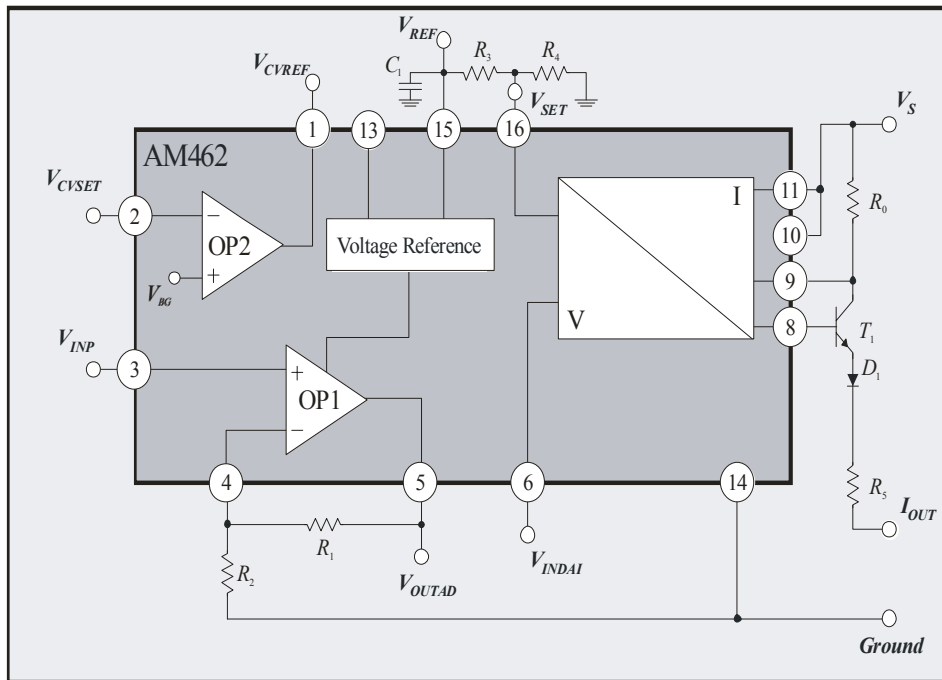
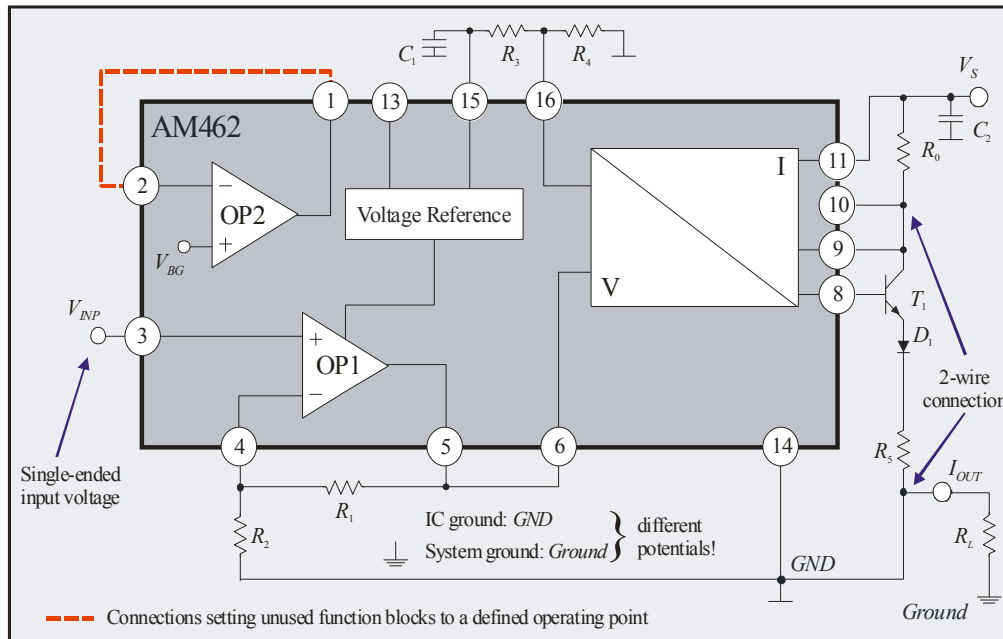

Figure 2: Block diagram of AM462 (3-wire circuit for current output). Pin 1 and 2 have to be connected.
Figure 8: Typical 2-wire operation for input signals referenced to ground
AM462 is a modular, universal V/I converter and protector IC which has been specially developed for the conditioning of voltage signals referenced to ground. It is designed for both 2- and 3-wire operation in industrial applications (cf. application in Figure 8). AM462's various functions are depicted in the block diagram (Figure 2) which also illustrates how few external components are required for the operation of this particular device.
AM462 consists of several modular function blocks (operational amplifiers, voltage-to-current converters and references) which, depending on external configurations, can either be switched to one another or operated separately (see the basic circuitry in Figure 2):
2. The internal voltage-to-current converter (V/I converter) provides a voltage-controlled current signal at IC output I_{OUT} (pin 8) which activates an external transistor T_1 ; this in turn supplies the actual output current I_{OUT} . To reduce power dissipation the transistor is an external component and protected against reverse polarity by an additional diode D_1 . Via pin SET an offset current I_{SET} can be set at output I_{OUT} (with the help of the internal voltage reference and an external voltage divider as shown in Figure 2, for example). External resistor R_0 permits the output current to be finely adjusted with parallel operation of current and the voltage output. For the output current provided by T_1 the following ratio applies:
- The AM462 *reference voltage source* enables voltage to be supplied to external components (such as sensors, microprocessors, etc.). The reference voltage value V_{REF} can be set via pin 13 V_{SET} . If pin V_{SET} is not connected, $V_{REF} = 5V$; if V_{SET} is switched to ground, $V_{REF} = 10V$. Values between the above can be set if two external resistors are used (inserted between pin V_{REF} and pin V_{SET} and between pin V_{SET} and GND ; see Figure 2).
When using amplification stage OP1 together with the V/I converter for voltage-to-current conversion the offset of the output current should first be compensated for by suitable selection of resistors R_3 and R_4 . To this end the OP1 input must be connected to ground ($V_{INP} = 0$). With the short circuit at the input and by connecting up V/I converter pin *VSET* as shown in Figure 2 the values of the output current according to Equation 2 are as follows:
1. When operating AM462 it is imperative that external capacitor C_1 is **always** connected (cf. **Figure 2**). Care must be taken that the value of the capacitance does not lie beyond its given range, even across the range of temperature (see *Boundary Conditions* on page 7). In 2-wire operation ceramic capacitor C_2 must also be used (cf. Figure 8).
In a 2-wire version (cf. *Figure 8*) system supply voltage V_S is connected up to pin 11 ($RS+$) and pin 10 (VCC) to pin 9 ($RS-$). The ground of the IC at pin 14 (GND) is connected to the node between resistor R_5 and load resistor R_L . IC ground (GND) is **not** the same as system ground ($Ground$). The output signal is picked up via load resistor R_L which connects current output I_{OUT} to the system ground.